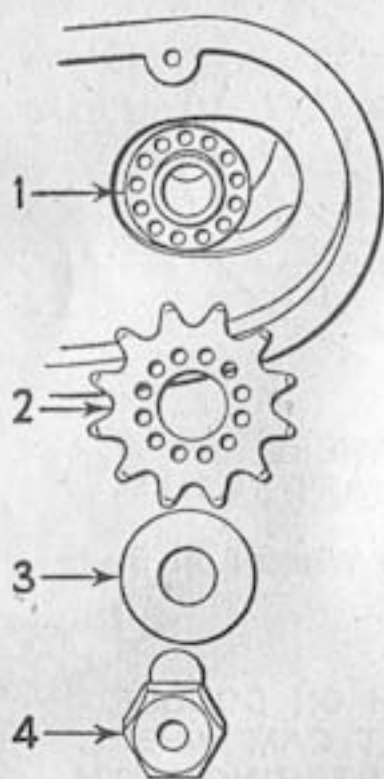

FIG. 6.—VERNIER TIMING ADJUSTMENT.
On all models except those fitted with Maglita equipment, use the Vernier timing adjustment. This consists of a drilled sleeve, sprocket and peg plate, retained by a sleeve nut, which is shown in Fig. 6.
The engine magneto driving-sprocket is secured to its shaft by means of castellations, which render wrong replacement impossible. The sprocket on the armature shaft of the magneto is supplied with a Vernier timing adjustment, which allows a very accurate and certain method of fixing the drive after the correct setting has been arrived at. The setting of this Vernier adjustment may at first sound a trifle complicated, but in reality it is perfectly simple. Fitted to the armature shaft of the magneto is a sleeve (1), which has thirteen holes ranged in a circle, and a pinion (2), which has twelve holes similarly arranged (Fig. 6).